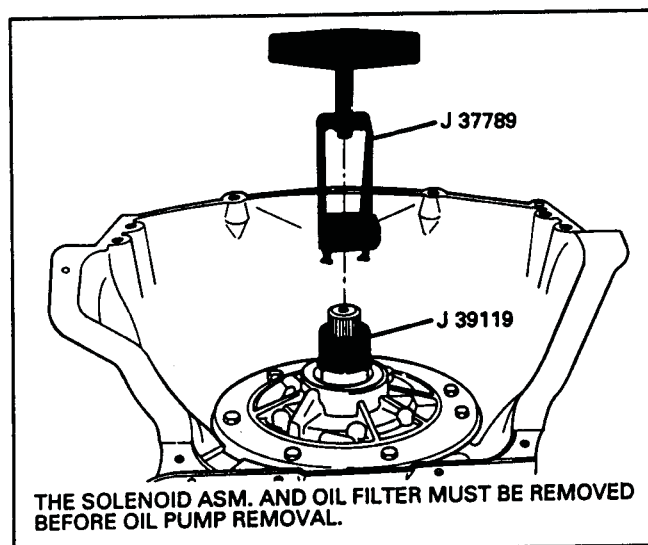

Figure 63
8. Rotate the transmission so that the pump is facing up, as shown in Figure 63, to check transmission end play.
9. Install pump remover J-37789 and the adapter J-39119 as shown in Figure 63.